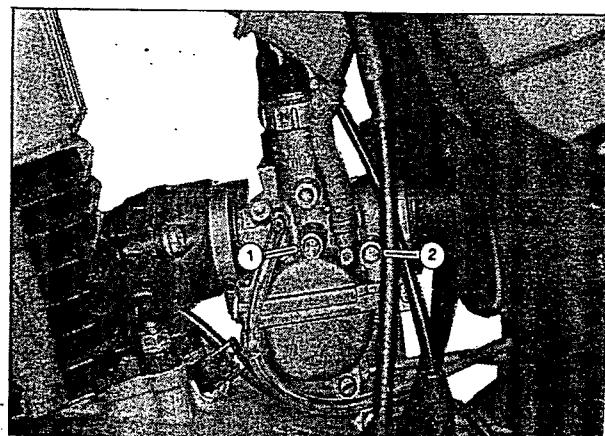

Fig 2.5
- Turn the throttle valve stop screw (1) (fig 2.5) so that engine idles at 1500 rpm.
- Turn the pilot air screw (2) (fig 2.5) in or out around 1/4 turn from the initial setting (refer to table). The engine rpm will increase or decrease in accordance with the turning of the pilot air screw. Set this screw in a position that allows the engine to idle at the highest rpm.